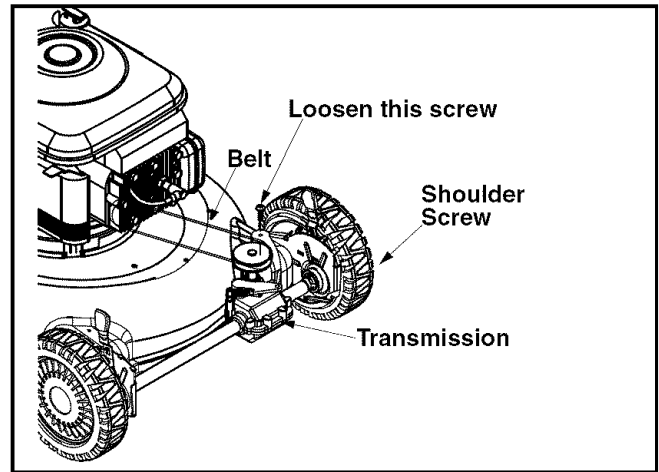

Figure 14
- Using a torque wrench, loosen the screw holding the belt tension spring to the transmission. See Figure 14. Do not remove the screw completely, as you loosen the screw the tension on the belt will be released.